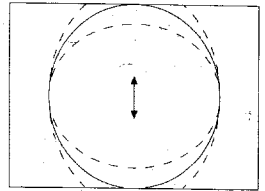

Fig. 11
- Adjust the the horizontal location to obtain picture centering (fig. 11).